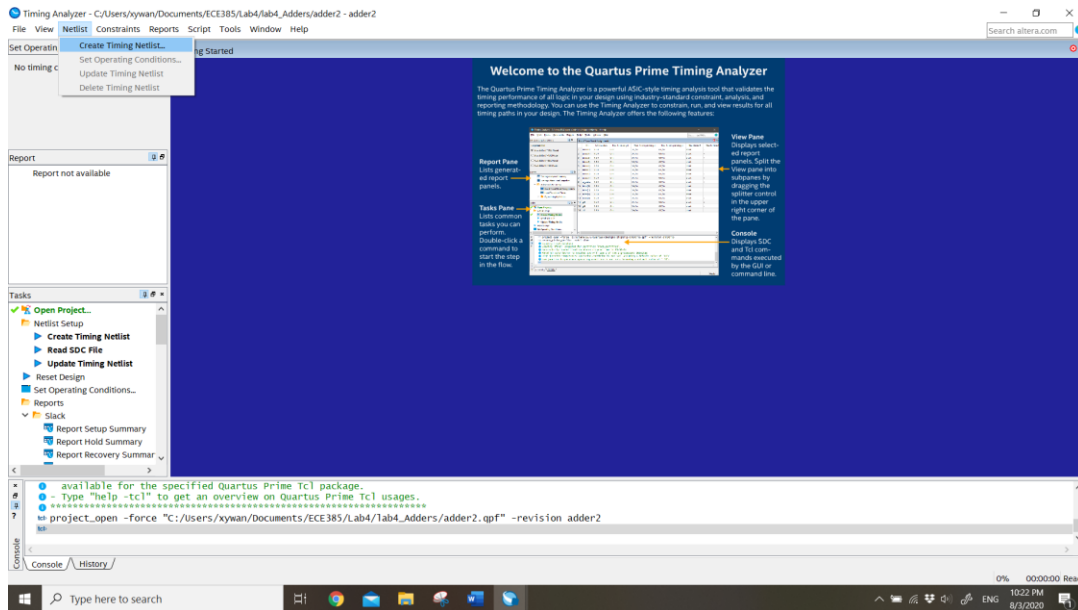

Figure 5
4. The TimeQuest Time Analyzer interface prompt is shown in figure 5. Choose “Create Timing Netlist” to create a timing netlist.